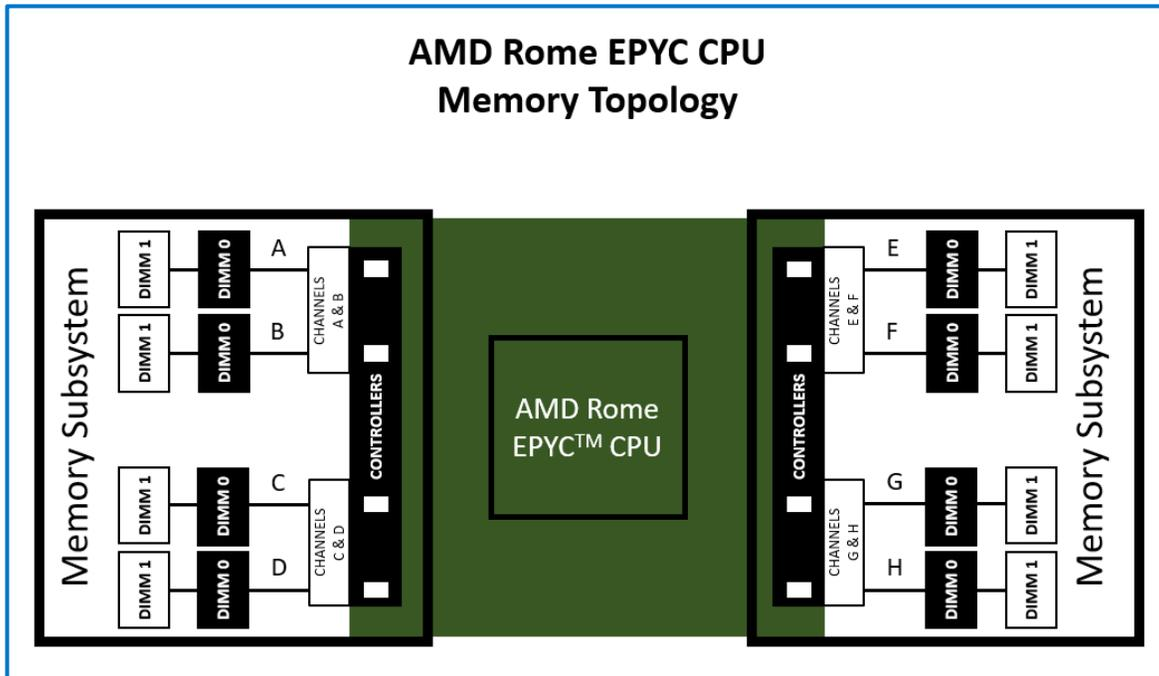

Figure 1: CPU-to-memory subsystem connectivity for Rome processors
To understand the relationship between the CPU and memory, terminology illustrated in Figure 1 must first be defined:
- Memory channels are the physical layer on which the data travels between the CPU and memory modules.³ As seen in Figure 1, Rome processors have eight memory channels designated A, B, C, D, E, F, G and H. These channels were intended to be organized into pairs such as two-way (AB, CD, EF, GH), four-way (ABCD, EFGH) or eight-way (ABCDEFGH).